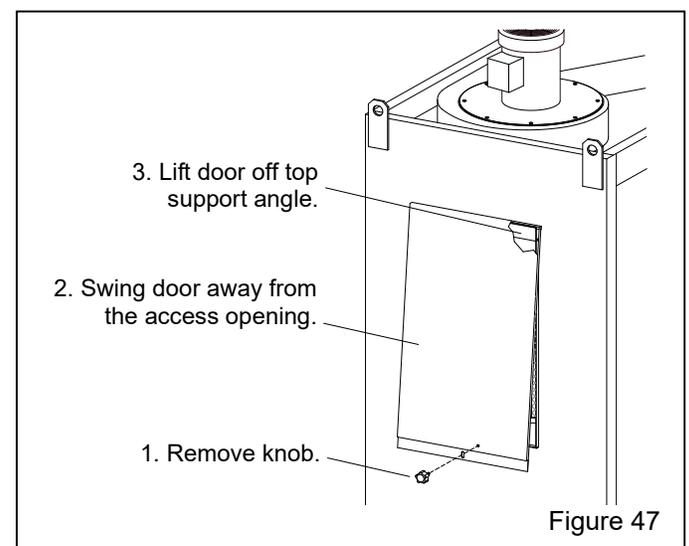

Figure 47
7.13 Replacing Filter Cartridge – Figures 47 and 48
7.13.2 Refer to Figure 47 and remove the dust-collector access door: